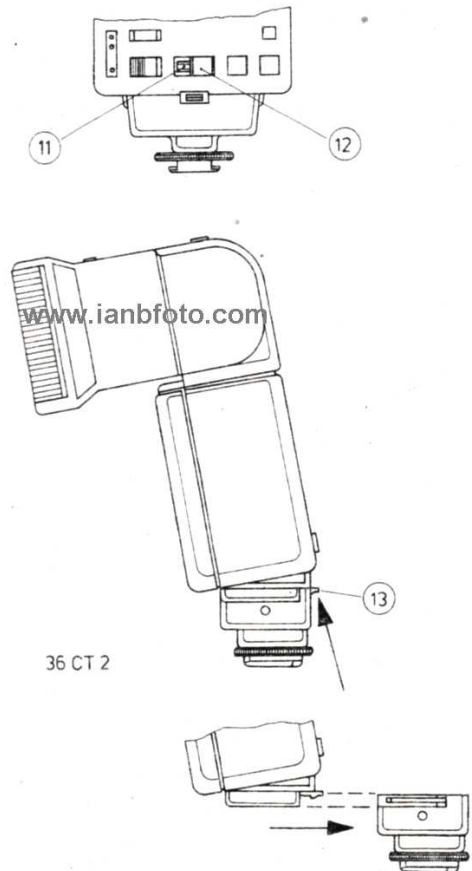

Fig. 4
An SCA 3000 A connecting cable is required for SCA operation when using one of the above mecablitz models as a handle-mount flashgun with Power Grip G 16 and an SCA 3000 adapter. This connecting cable must be completely inserted into the SCA adapter, as shown in Fig. 4. The SCA adapter is slipped into the camera's accessory shoe, whereas the Power Grip G 16. For connection with an SCA 300 adapter, the SCA 300 A connecting cable must be used.
Depress the locking knob (12) and tilt the unit forward (the indicator window (11) then displays 10°). Press the adapter catch (13) and remove the base or adapter backward. Slip in the new base (or adapter) from behind as far as the stop and allow the adapter catch (13) to lock into place. Then twist the unit into the desired direction, pressing the locking knob. (12). Allow it to lock in place (Fig. 4).